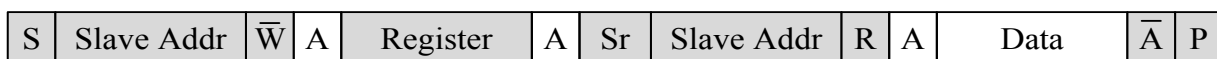

Figure 3-30 Data format(Master reads from Slave)
- Read Data (Figure 3-30)
- 1) Master sends Start condition (S)
- 3) Slave sends ACK (A) response
- 5) Slave sends 1bit ACK (A) response
- 7) Master sends 7bit Slave Address and 1bit Read flag (R) represents as high
- 8) Slave sends 1bit ACK (A) response